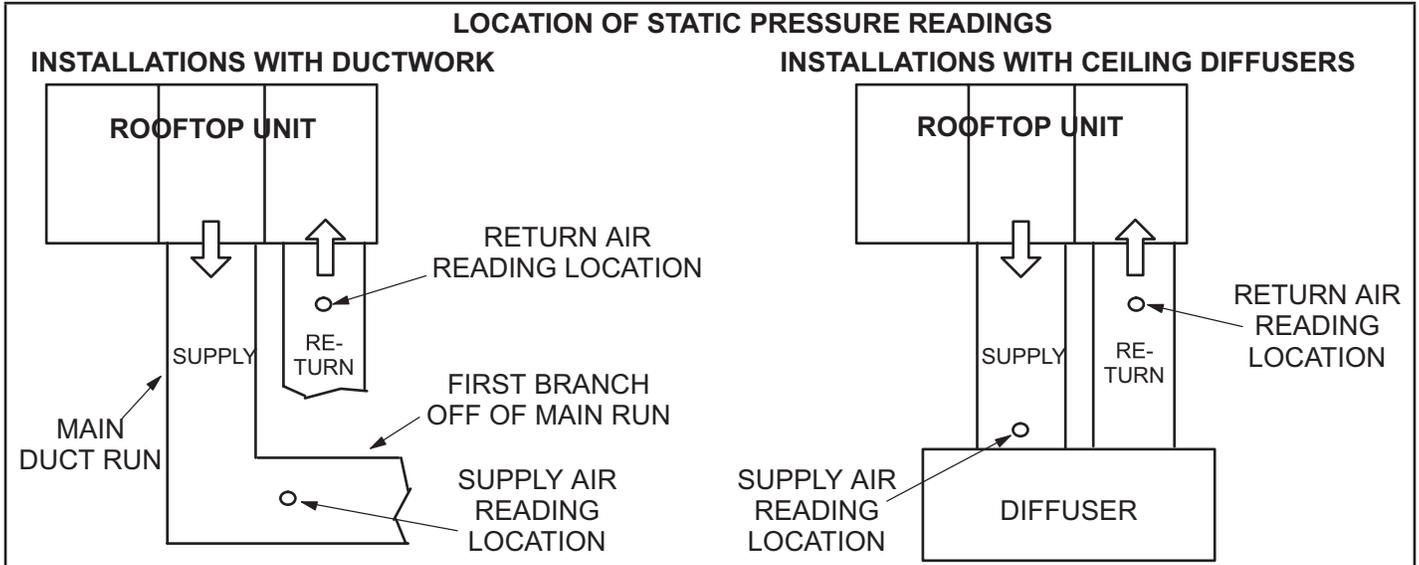

FIGURE 25
- 2 - With all access panels in place, measure static pressure external to unit (from supply to return). Blower performance data is based on static pressure readings taken in locations shown in FIGURE 25.